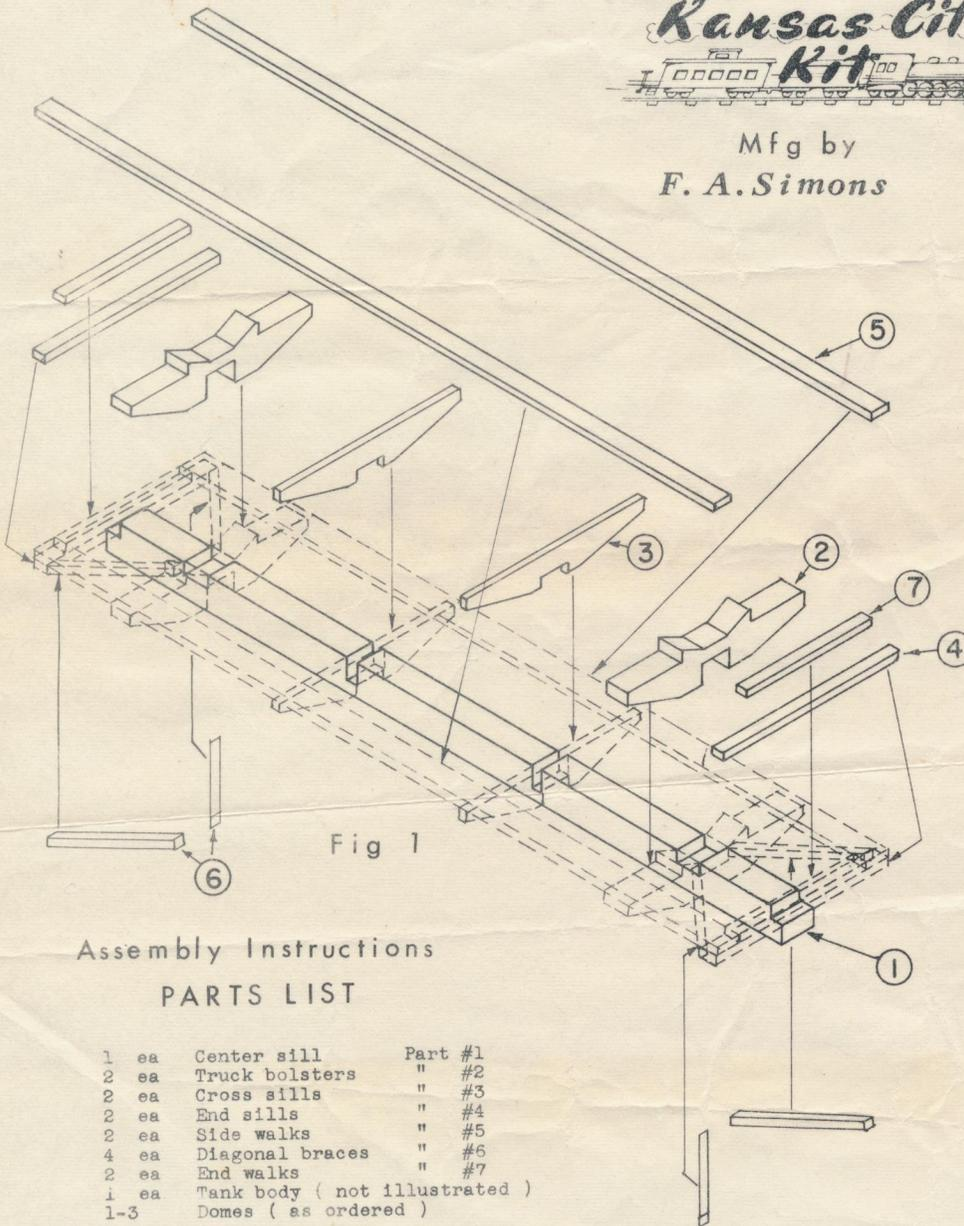

Fig 1
1. Starting with the center sill part #1, cement the truck bolsters part #2 in place in the large notches. Sand the sides of the bolsters, if necessary, to fit them snugly in place. These must be square with the center sill. Refer to Fig 1.